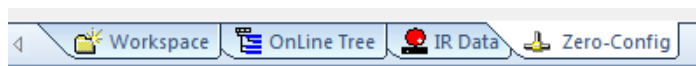

FIG. 1 Zero-Config tab
2. Once power is applied to the device, select the Zero-Config tab on the Workspace bar (see FIG. 1).